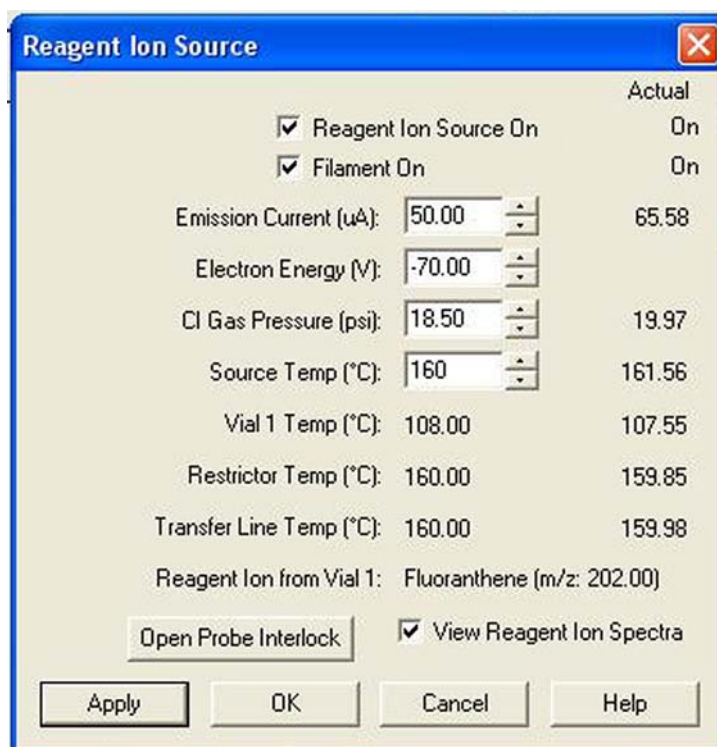

Figure 2-20. Reagent Ion Source dialog box
The reagent heaters are turned on by selecting the Reagent Ion Source On check box in the Reagent Ion Source dialog box. See Figure 2-20.
When the reagent heaters are in Standby mode, they are immediately turned on by selecting the Reagent Ion Source On check box (Figure 2-20 on page 2-27). When starting from room temperature, it takes up to ten minutes for the reagent heaters and vials to stabilize at 108 °C and reagent to be delivered to the ion source.
- The reagent heaters turn off immediately when the Reagent Ion Source On check box is deselected in the Reagent Ion Source dialog box. (See Figure 2-20 on page 2-27.)